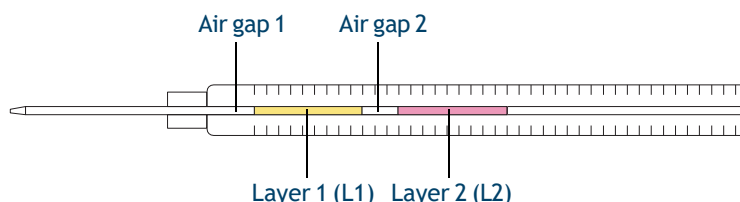
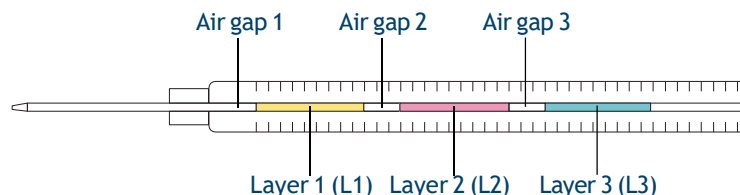

Figure 64. 2-layer sandwich injection
Figure 65. 3-layer sandwich injection
The ALS system has the ability to draw liquid from multiple vials to create multilayered, or sandwich, injections. Each layer of sample, internal standard, or solvent can be separated by a layer of air (from 0% to 10% of the syringe size). Figure 64 and Figure 65 show examples of 2- and 3-layer sandwich injections.
- 3 Place the solvent B vial (L3) in turret position L3. Refer to Figure 64 on page 178 for turret position information.